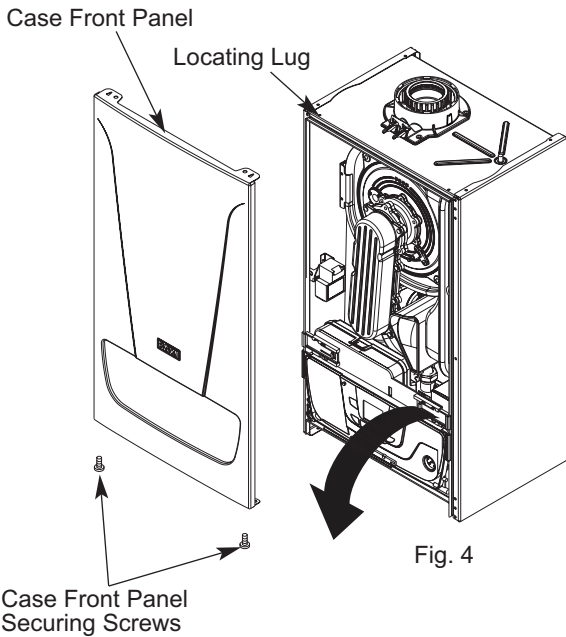

Fig. 4
5. Undo the securing screws and lift the case front panel off the boiler and hinge the control box downwards, Fig. 4.